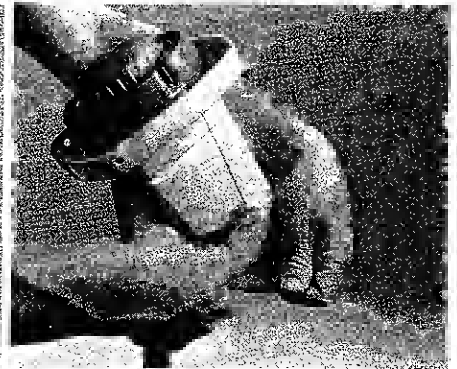

FIGURE 7
- C. Holding the line tight, clip off the excess line at the point indicated on the motor housing. Figure 7